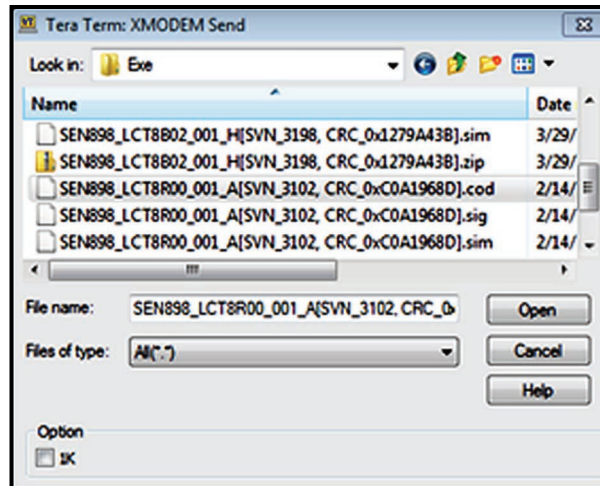
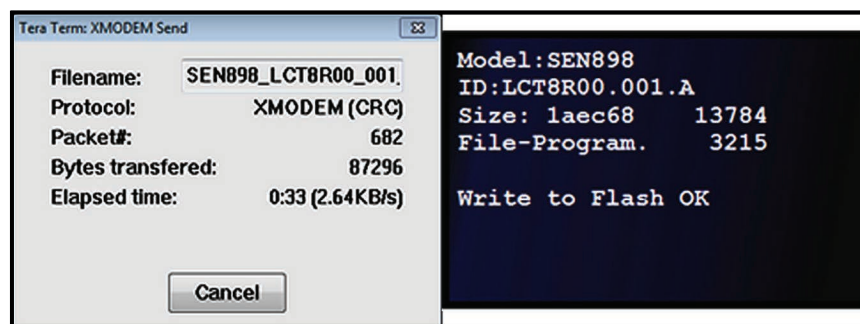

Figure 84: XMODEM Send file selector
Figure 85: XMODEM Send status (left) and meter display file receive status (right)
3. When the *Tera Term: XMODEM send file selector window* opens (see *Figure 84* below), locate and select the *.cod* extension file from your PC. After selecting the *.cod* extension file, click *open* and the status window shown on the left in *Figure 84* below opens. At this time, the meter display shows the file receive status (see the right of *Figure 85* on page 95 below).